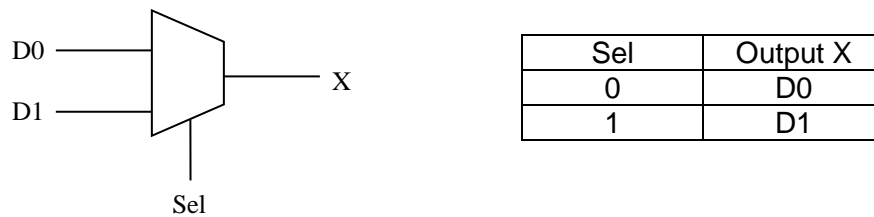

Figure 2: Logic symbol and truth table of a 2-input multiplexer
- 4.5 In this experiment, you may also make use of a 2-input multiplexer. Figure 2 shows the logic symbol and truth table. By controlling the logic signal Sel, either the input D0 or the input D1 is directed to the output X at any time.
- 5.5.2 To achieve this, you will make use of 2-input multiplexers (see Figure 2). You will learn more about them in this course.